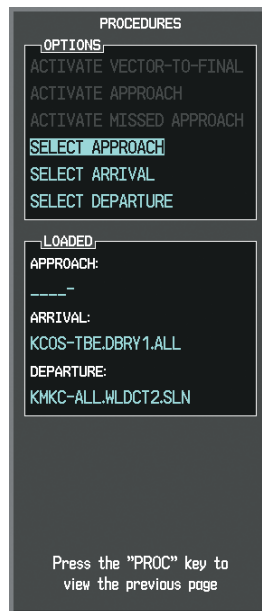

Figure 5-131 Procedures Window
b) 'SELECT APPROACH' should be highlighted as shown in Figure 5-131.